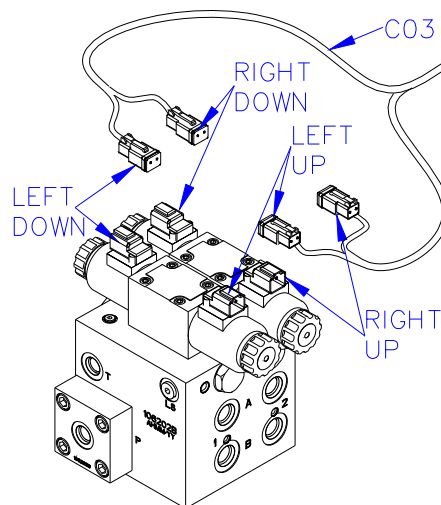

Figure 22: Valve Cable Connections
10. Connect the 2-pin connectors on C03 to the NORAC valve block, as shown in **Figure 22**.